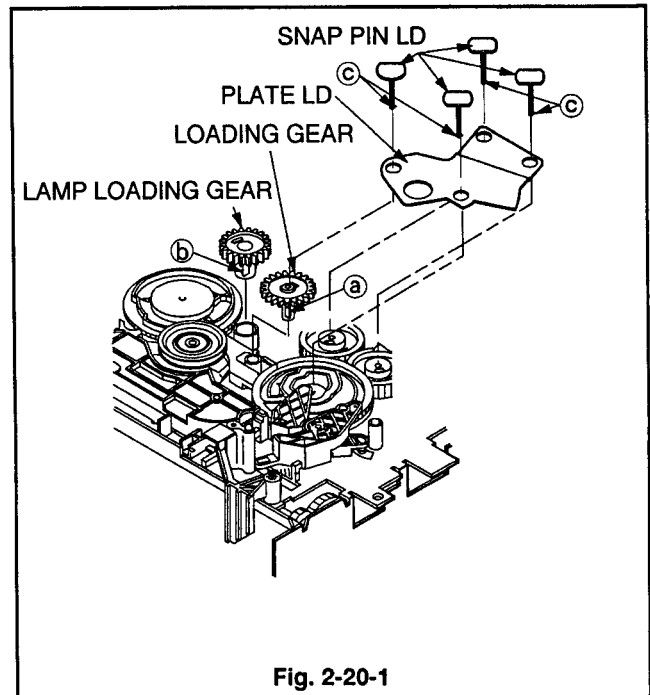

Fig. 2-20-1
1. Release the catches (©) of four SNAP PIN LDs securing PLATE LD as shown in Fig. 2-20-1, and remove SNAP PIN LD.
2. Use tweezers to unfasten Catch (a) on the surface of the **LOADING GEAR**, shown in Fig. 2-20-1, and remove the **LOADING GEAR**.
3. Use tweezers to unfasten Catch (b) on the surface of the **LAMP LOADING GEAR**, shown in Fig. 2-20-1, and remove the **LAMP LOADING GEAR**.
1. Install the **PLATE LD** and four **SNAP PIN LDs** shown in Fig. 2-20-1.
3. Install the **LAMP LOADING GEAR** shown in Fig. 2-20-1.
5. Install the **LOADING GEAR** shown in Fig. 2-20-1.